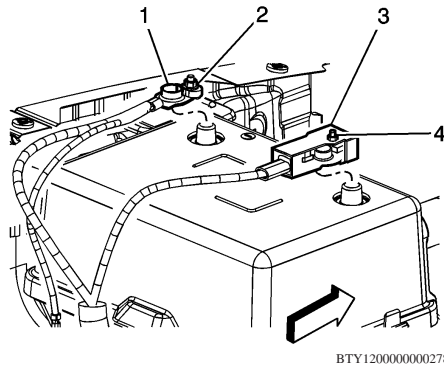

Fig. 1 Battery cable removal
4. Loosen battery ground cable nut (2), Fig. 1.
5. Disconnect battery ground cable (1) from battery, Fig. 1.
6. Open protective cover (3) to access battery positive cable terminal, Fig. 1.
7. Connect battery positive cable to battery, and torque nut (4) to 80 inch lbs., Fig. 1.
8. Close protective cover (3) over battery positive cable terminal, Fig. 1.
9. Connect battery ground cable (1) to battery, and torque battery cable nut (2) to 80 inch lbs., Fig. 1.